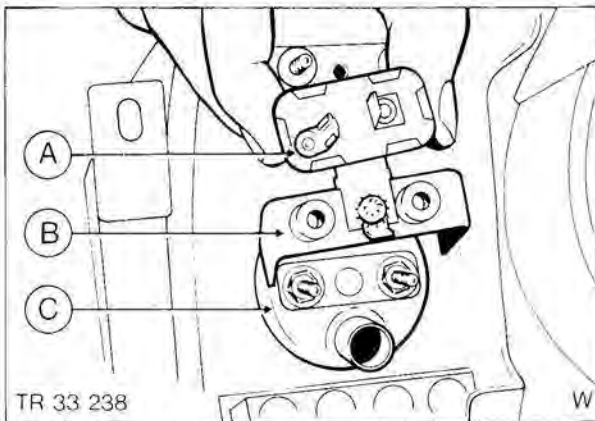

Fig. 20. Removing regulator
6. Unscrew two knurled fasteners and remove fuel gauge and bracket from facia, Fig. 20.